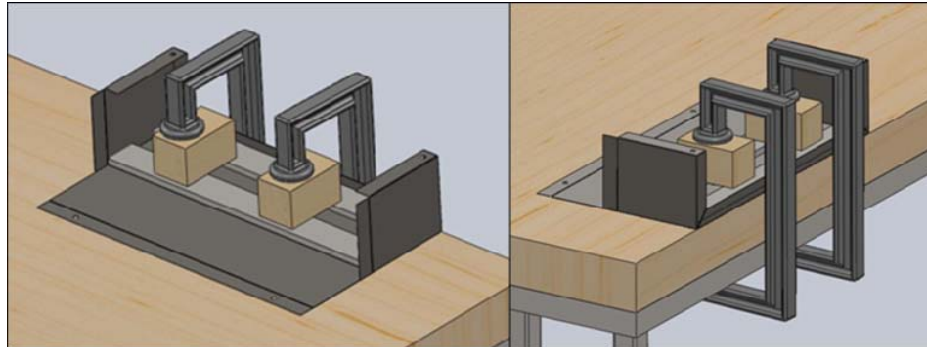

Figure 13: Bend #8- 12” Clamp Positioning- Clamp the Bending Bars and Scrap Blocks in place.
- C. Clamp the two **Bending Bars** and the two **Scrap Blocks** in place using using two **12” Bar Clamps** as shown in Figure 13.